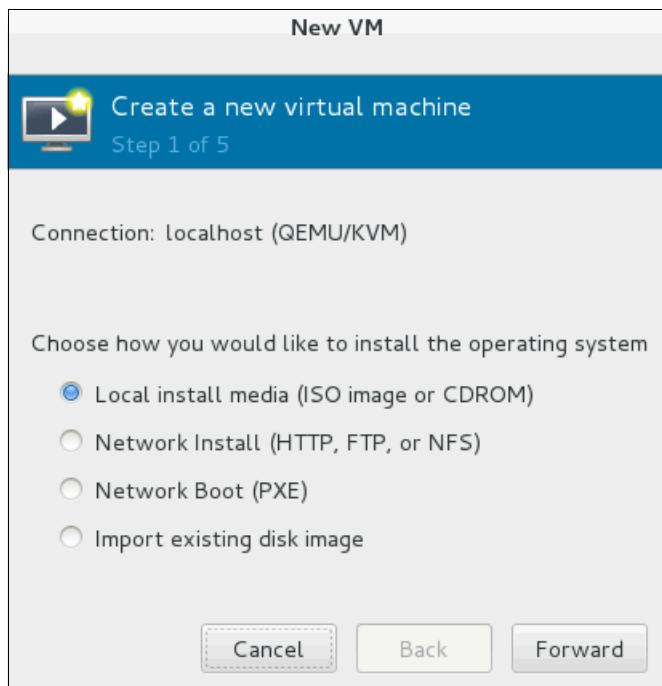

Figure 3-23 New VM panel
3. In the New VM panel (Figure 3-23), select **Local install media**, and then click **Forward**.